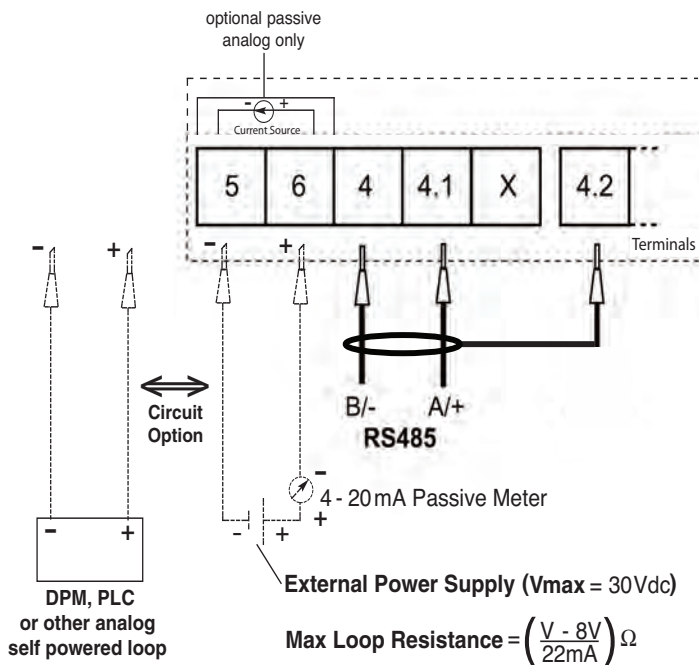
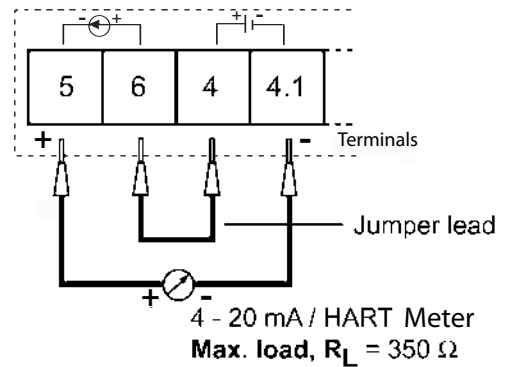

Figure 27
Figure 29
A) An RS-485 network can be constructed of multiple sensors (Flexar® & SMU), one master device (SiloTrack\* or HMI2), and 2-conductor shielded cable (such as Belden 9322 or similar). All instruments are interconnected in a daisy-chain, multidrop configuration. The order of connection is not important (i.e. Flexar’s Address numbers do not have to be sequential along the RS-485 cable, and/or SMU’s can be included). A communication network such as this operates most effectively when the interconnection has only two ends. “T”s in the network cable should be avoided whenever possible. Observe polarity when making the communication interconnection to terminals 4.1 (A/+) and 4 (B/-). Attach the cable shield in the terminal identified as “4.2”. Do not run communication cable in the same conduit as power. (Refer to Fig. 27)
Wiring for the analog output signal should be connected to terminals 4.1 and 5 as shown in Figure 29. The analog output can be an active output, meaning that a power source internal to the Flexar level sensor is used to power the output, if the appropriate option was purchased. A customer supplied jumper wire should be connected between terminals 4 and 6. Maximum loading for this output is 350 ohms. Refer to Figure 27, terminals 5 and 6 for passive analog wiring schematic.